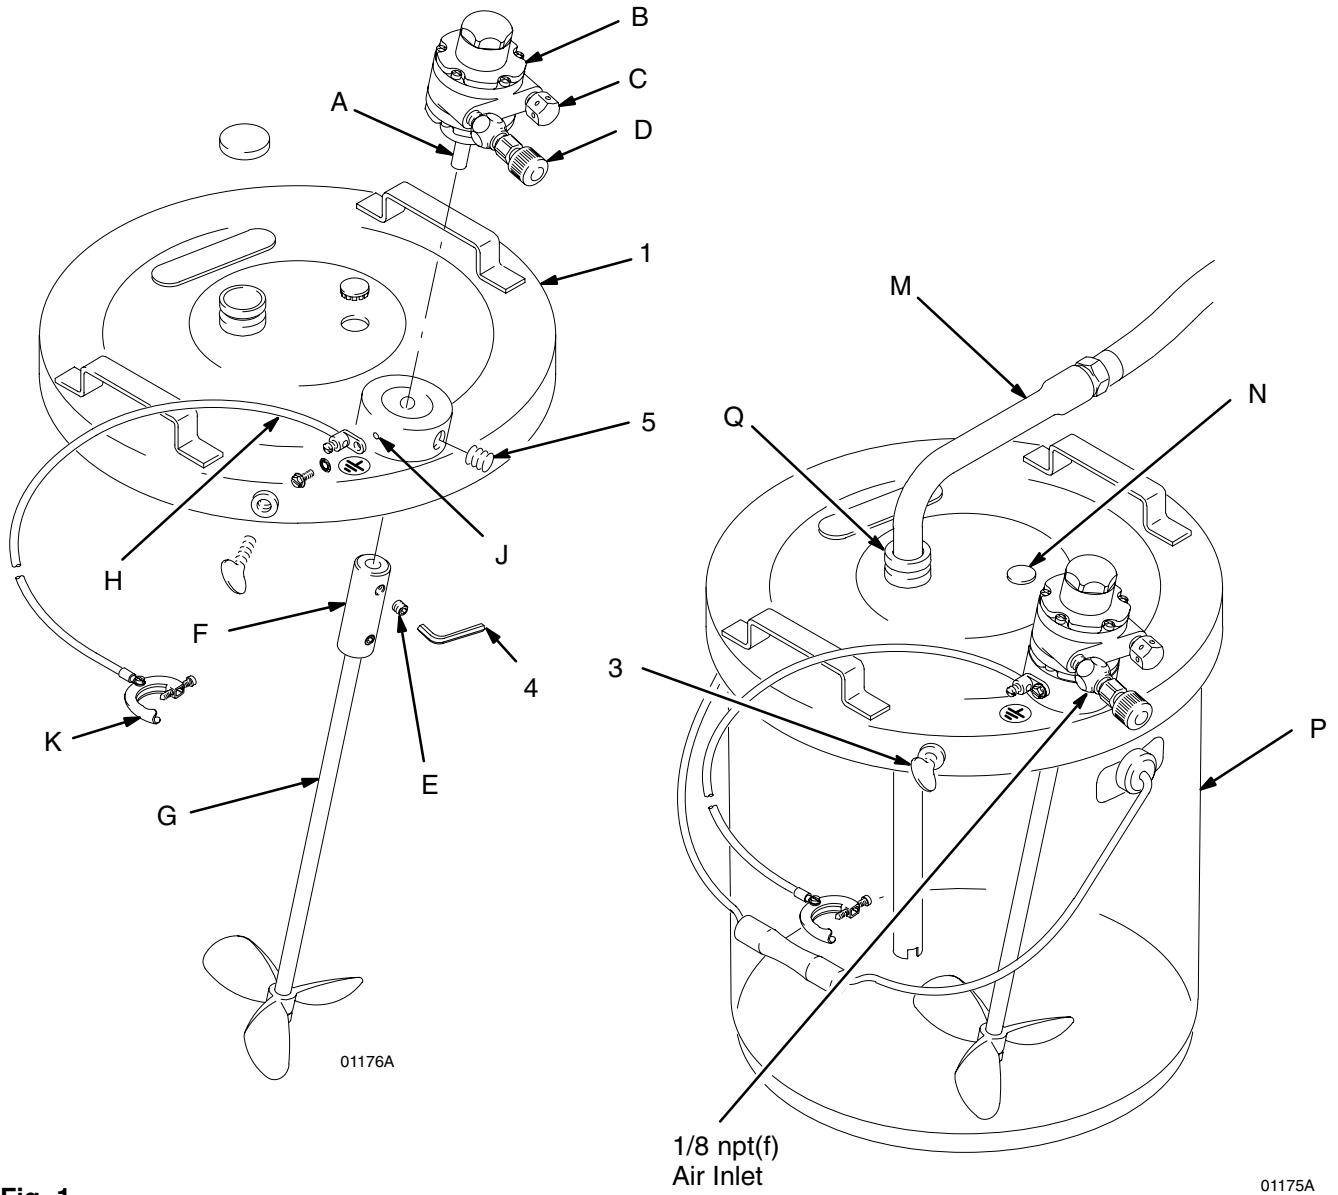

Fig. 1
NOTE: The reference numbers and letters in parentheses in the text refer to the Parts Drawing and Fig. 1.
1. Set the air motor (B) in the opening in the cover (1) as shown in Fig. 1. Secure with the two setscrews (5), using the allen wrench (4).
2. Slide the coupling (F) onto the shaft (A) of the air motor, then insert the agitator shaft (G) into the coupling. Secure the coupling with the two setscrews (E).
3. Close the needle valve (D). Install an air line quick disconnect to the air inlet. Order Part No. 208536 coupler and 169969 fitting, 1/8 npt(m). Then connect a properly sized air hose to the 1/8 npt(f) inlet of the valve.
4. Position the agitator and cover assembly on top of a 5 gal. (19 liter) pail of paint (P). Tighten the three thumbscrews (3).
Regulate the agitator speed with the needle valve (D). See Fig. 1, page 5. Use the lowest agitator speed needed for thorough agitation of the paint. Excessive agitator speed may cause the paint to foam.